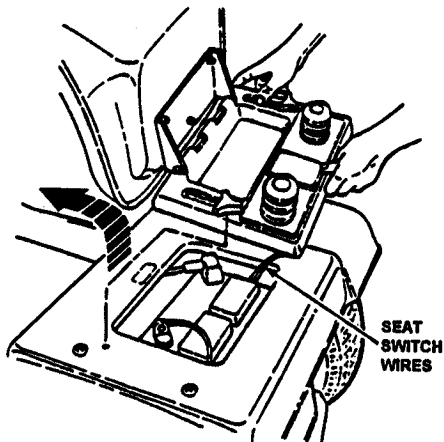

FIGURE 16
2. Lay Seat forward. **NOTE:** Be careful NOT to pull Seat Switch Wires from the Switches. See Figure 16.
3. Disconnect the Negative (BLACK) Battery Cable from the - Terminal first! See Figure 16.
11. Reinstall Battery in Tray. See Figure 16